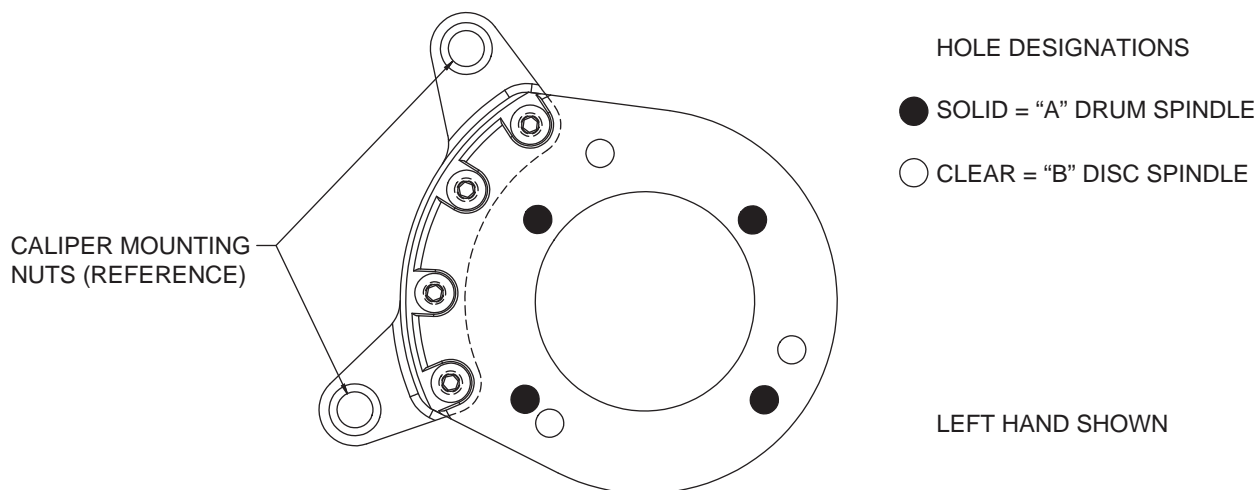
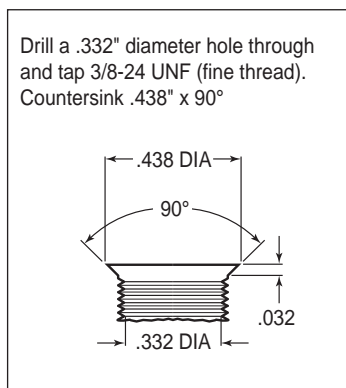
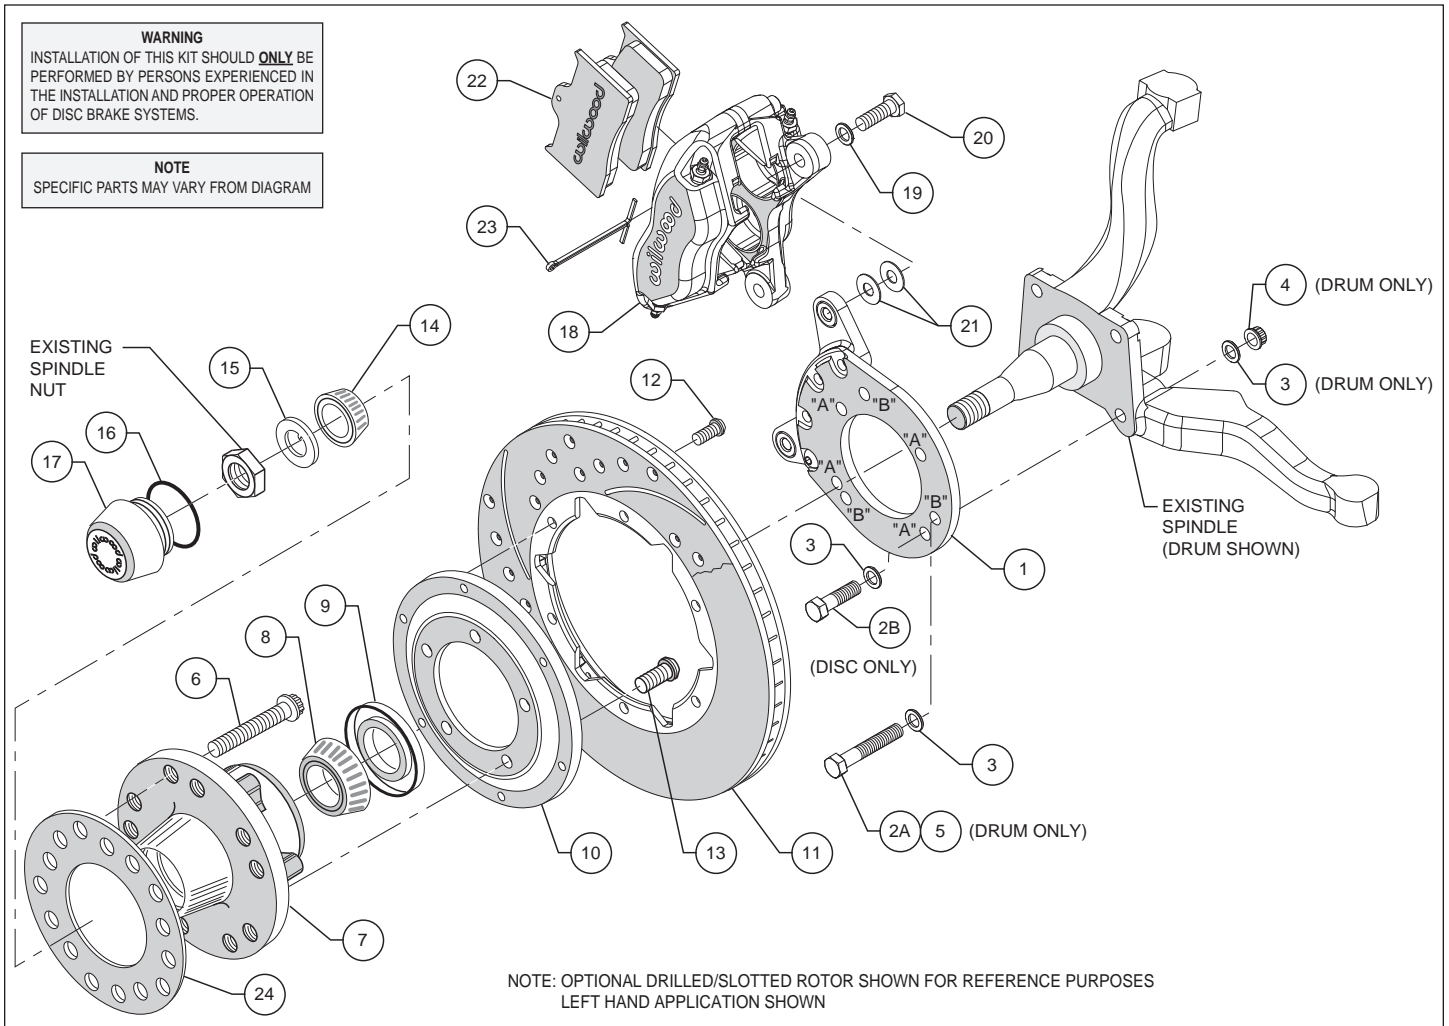
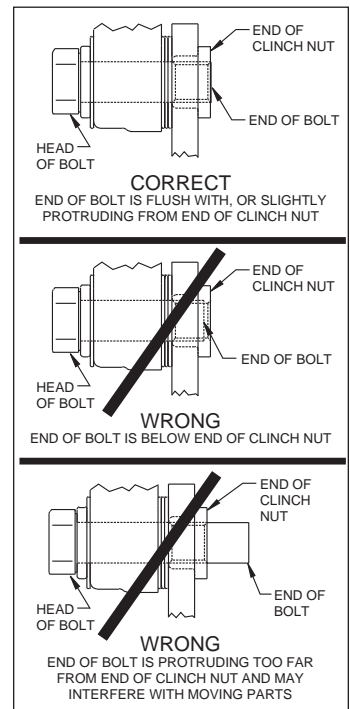

Figure 1. Wilwood Caliper Mounting Bracket
Figure 2. Drill and Tap Detail
Figure 4. Typical Installation Configuration
Figure 5. Clinch Nut Engagement Diagram
This kit has been designed for use with both the disc brake or the drum brake configuration of vehicle. The only difference is in how the Wilwood caliper mounting bracket is installed. The same bracket is used for both configurations; the disc brake version utilizes three mounting holes while the drum brake application uses four mounting holes (see Figure 1). For your convenience we have supplied bolt kits for both applications (see parts list and Figure 4 as necessary). Use the bolt kit that is applicable to your vehicle and disregard the other one.
NOTE: This modification should be performed by a qualified machinist and completed before assembly of the Wilwood disc brake kit begins. Using the caliper mounting bracket as a template (refer to Figure 1 as necessary), locate and verify the three original holes on the spindle that need to be modified. Drill a .332" diameter hole through all three holes, then tap 3/8-24 UNF (fine thread). Countersink the holes to .438" diameter x 90°, as shown in Figure 2.
Assembly Instructions (numbers in parenthesis refer to the parts list, and Figure 2 on the preceding pages): **CAUTION:** All mounting bolts must fully engage clinch nuts. Be sure to check that all bolts are either flush or protruding through flanged side of clinch nut after shimming, Figure 5.
•**NOTE:** This kit uses the same mounting bracket (1) for both the drum and disc brake spindles. The drum version, Photo 1, uses four mounting bolts (designated "A"), while the disc version, Photo 2, uses three (designated "B"). Refer to Figures 1 and 2 for the basic installation position of the bracket and the "A" and "B" reference designations (not physically marked on the brackets).
For Drum Spindle: Align bracket, using the four "A" holes, to the face of the spindle and attach using bolts (2A and 5), washers (3), and lock nuts (4), as shown in Figure 2. Ensure that the flanged heads of the clinch nuts in the bracket are facing outboard, Photo 1. Torque nuts to 30 ft-lb.
For Disc Spindle: Align bracket, using the three “B” holes, to the face of the spindle and attach using bolts (2B) and washers (3), as shown in Figure 2. Finger tighten. Ensure that the flanged heads of the clinch nuts in the bracket are facing outboard, Photo 2. Remove bolts one at a time, apply red *Loctite*® 271 to threads, and torque to 40 ft-lb.
•Install the grease seal (9) by pressing into the backside of the hub (7), flush with the end of the hub, Photo 4.
•Orient the rotor (11) and the rotor adapter (10) as shown in Figure 2 and Photo 5. Attach the rotor to the adapter using bolts (12). Using an alternating sequence, apply red *Loctite*® 271 to the threads, and torque to 25 ft-lb.
•Mount the adapter/rotor assembly (10/11) to the hub (7) using bolts (13), as shown in Figure 2 and Photo 6. Using an alternating sequence, apply red *Loctite*® 271 to the threads, and torque to 55 ft-lb.
•Pack the small outer bearing cone (14) with high temperature disc brake bearing grease and install into hub (7). Slide the hub/rotor assembly onto the spindle. Secure using spindle washer (15) and OEM spindle nut, Photo 7. Adjust bearings per OEM specifications. Install saved OEM nut lock (if any) and a new cotter pin (not included).
•**NOTE:** *Please reference the caution statement at the beginning of the assembly instructions.* Mount the caliper (18) onto the caliper mounting bracket (1) using bolts (20) and washers (19), as shown in Figure 2. Initially place two .035” thick shims (21) on each bolt between the caliper and the bracket, Photo 9. Temporarily tighten the mounting bolts and view the rotor (11) through the top opening of the caliper. The rotor should be centered in the caliper, Photo 10. If not, adjust by adding or subtracting shims between the bracket and the caliper. Always use the same amount of shims on each of the two mounting bolts. **NOTE:** *The end of each bolt must be flush with or slightly protruding from the head of the clinch nut, as shown in Figure 5.* If necessary place spare shims between washer (19) and caliper